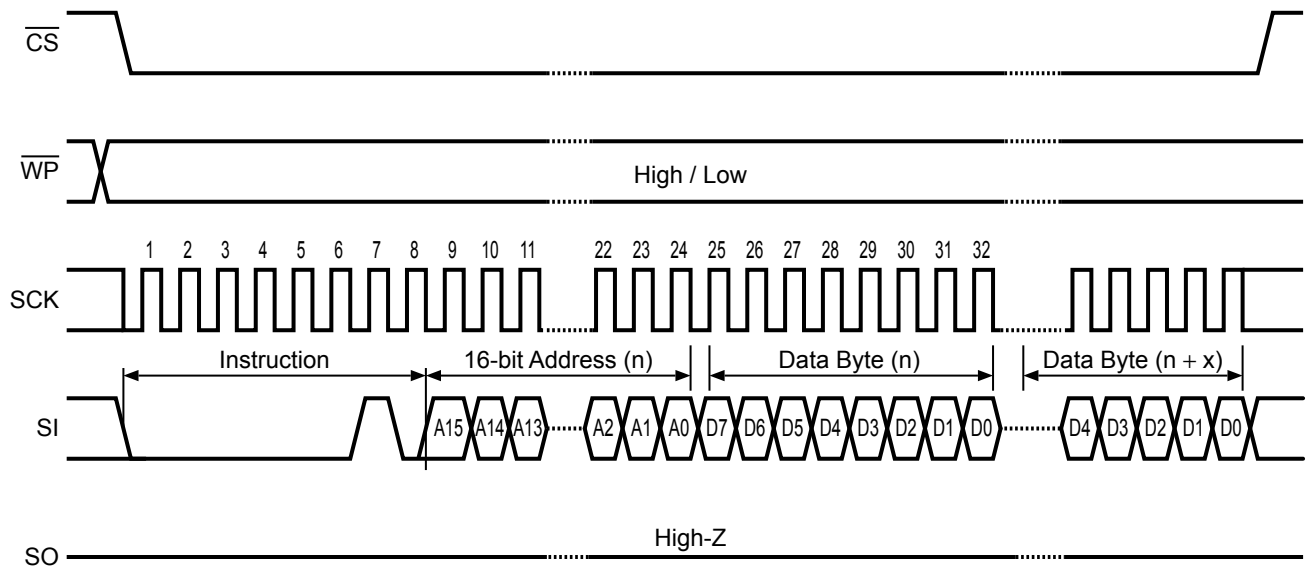

Figure 17 WRITE Operation (Page)
The S-25C512A can Page Write of 128 bytes. Its function to transmit data is as same as Byte Write basically, but it operates Page Write by receiving sequential 8-bit Write data as much data as page size has. Input the instruction code, the address and data from serial data input (SI) after inputting “L” in \overline{CS} , as the WRITE operation (page) shown in **Figure 17**. Input the next data while keeping \overline{CS} in “L”. After that, repeat inputting data of 8-bit sequentially. At the end, by setting \overline{CS} to “H”, the WRITE operation starts (t_{PR}).